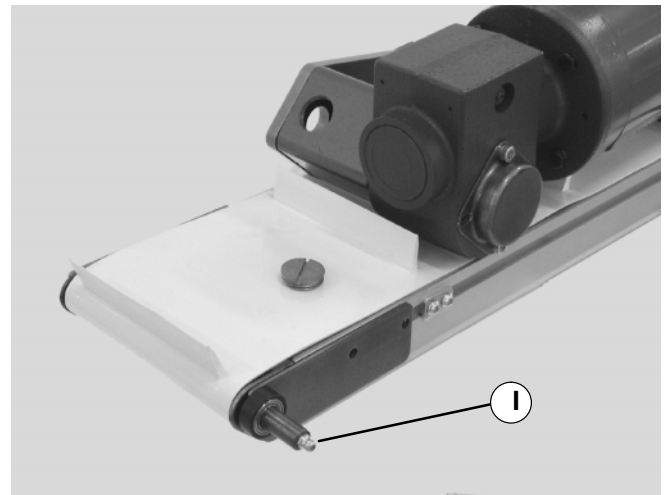

Figure 14
4. Remove motor and mounting package. Lubricate the pulley bearing on the drive side through the drive shaft grease fitting (I of Figure 14).